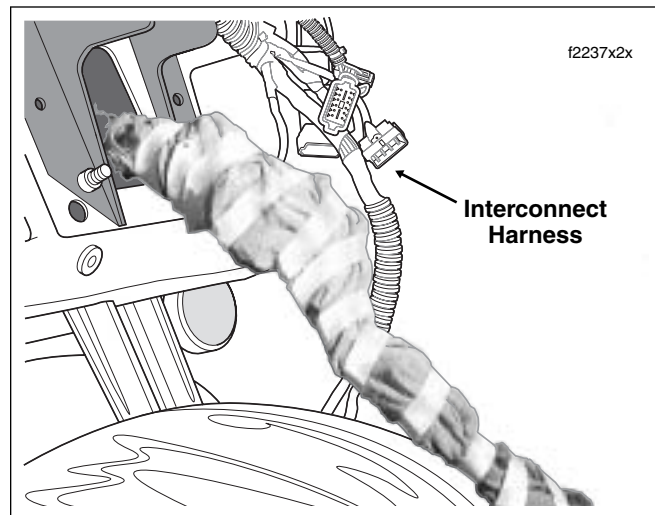

Figure 2-180. Wrap Main Harness in Shop Towels
14. Capturing all connectors, tightly wrap clean shop towels around the main harness conduit, handlebar switch control conduit, radio ground wire and radio antenna cable, and secure with masking tape. See Figure 2-180.
5. Draw wire harnesses and conduit out tunnel of fairing bracket and pull as far forward as possible. Tightly wrap clean shop towels around radio ground, main harness and handlebar switch control conduit and connectors and secure with masking tape. See Figure 2-180.
10. Draw the harness bundle as far forward as possible, resting the end of the bundle on the front fender. See Figure 2-180.